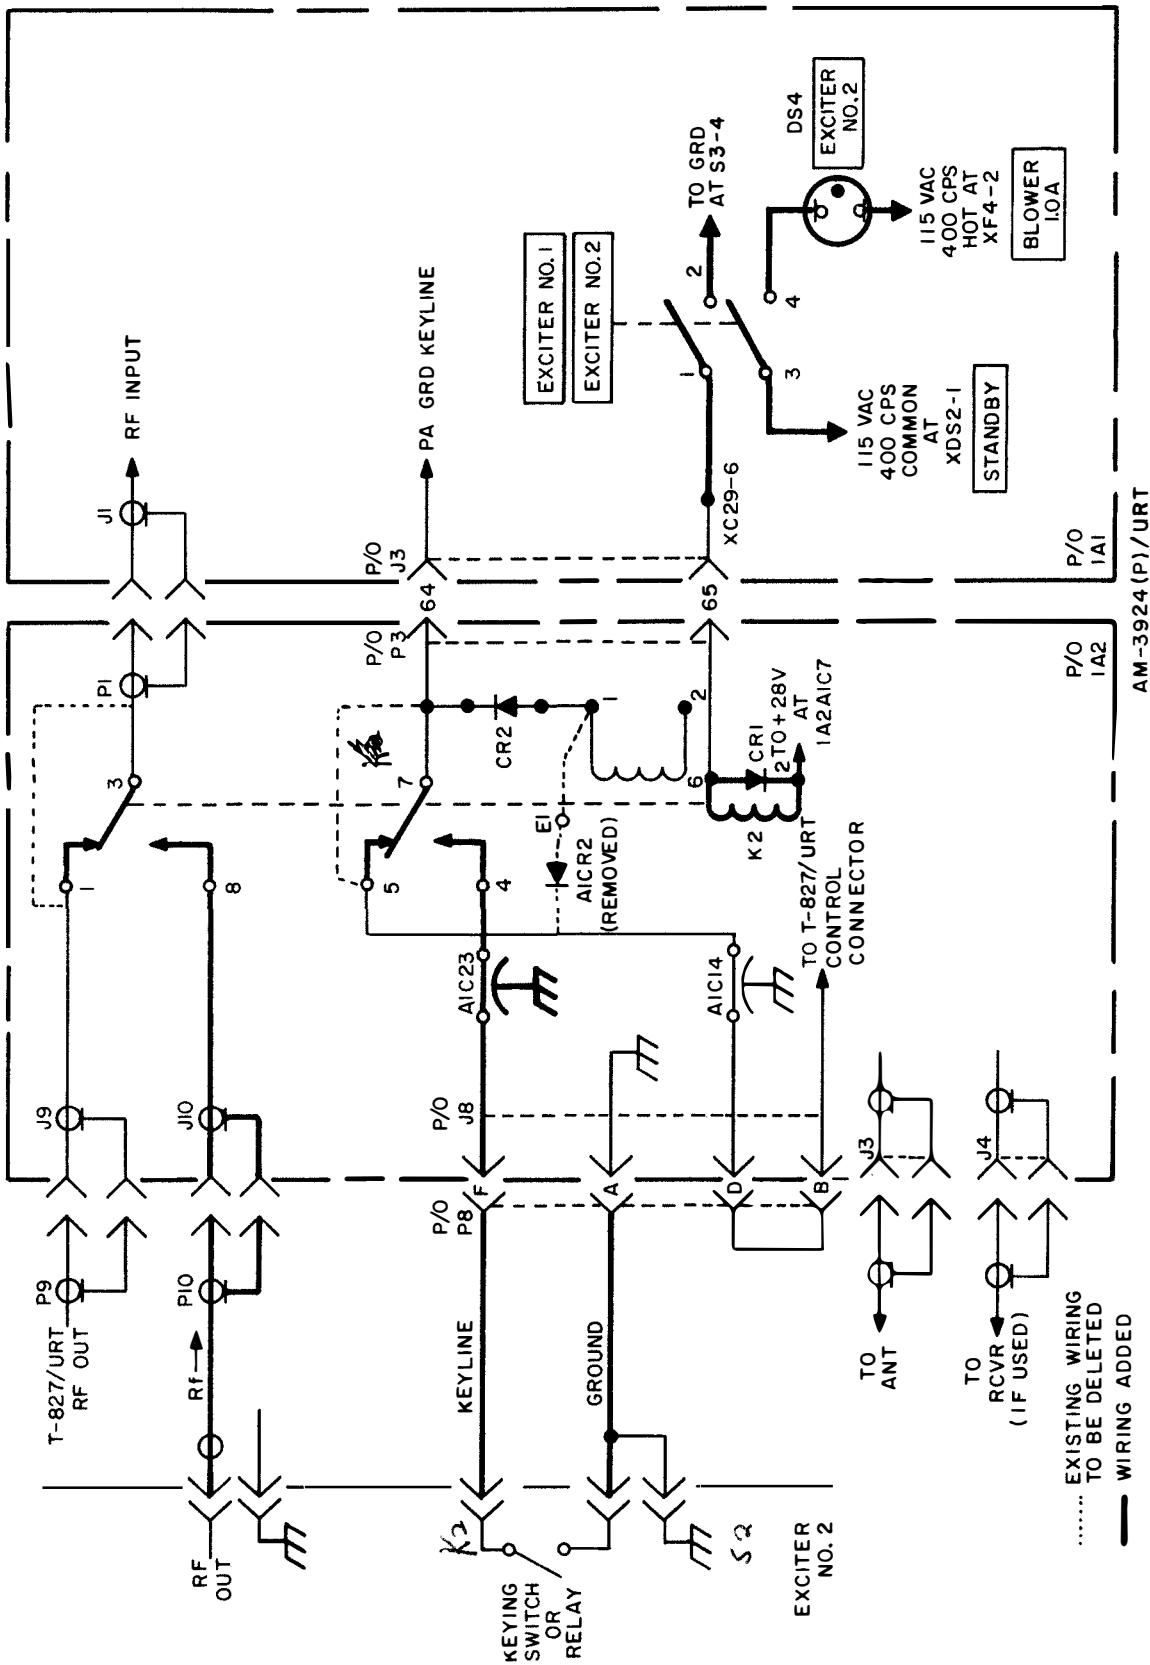

Figure 2-7. Exciter No. 2 Modifications, Schematic Diagram
2-46. To make the necessary changes to the AM-3924(P)/URT to permit use of a second exciter, follow the procedure below. The reference designators listed in table 2-10 and on figure 2-7 will be used for the new parts. Figure 2-7 is a partial schematic of the AM-3924(P)/URT showing the modifications required. Carefully solder all connections and cover exposed terminations with plastic tape or tubing. Use #22 AWG stranded wire, plastic insulated for 500 volts minimum for all wiring. During the installation, do not disturb or remove existing wiring and connections unless directed to do so.
- c. Fabricate a two wire cable using #22 AWG stranded insulated wire, for the keyline and ground connections. For the termination at AM-3924(P)/URT, use one of the types of connectors listed for plug P8 (to mate with connector 1A2J8). On P8, wire the keyline to pin F and the ground termination to pin A. Then use a short length of buss wire to short terminal D to terminal B on the connector (figure 2-7). Refer to the exciter no. 2 technical manual for cable terminations at that end.
a. Correct figures 2-4, 5-23, and 5-26 to show the wiring changes made during the modification (use figure 2-7 as a guide).
(1) Paragraph 3-4 title.
(2) Paragraph 3-30 title.
(3) Paragraph 3-28 title.
(4) Paragraph 3-30 title.
(5) Paragraph 3-32 title.
(6) Paragraph 3-38 title.